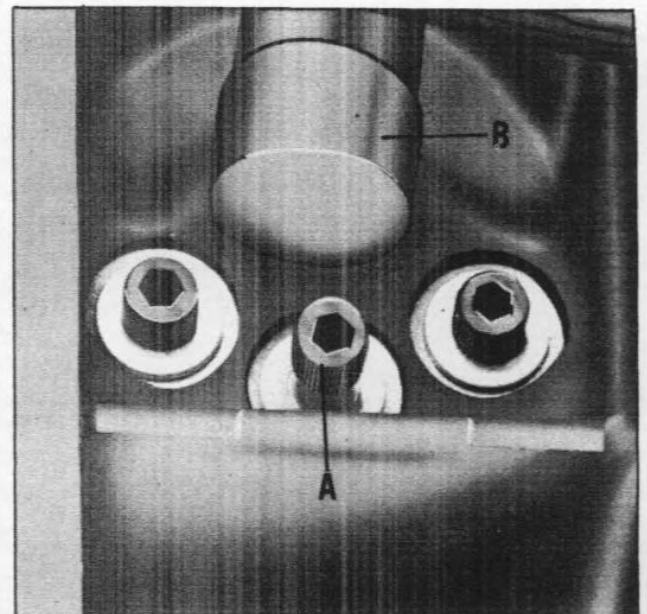
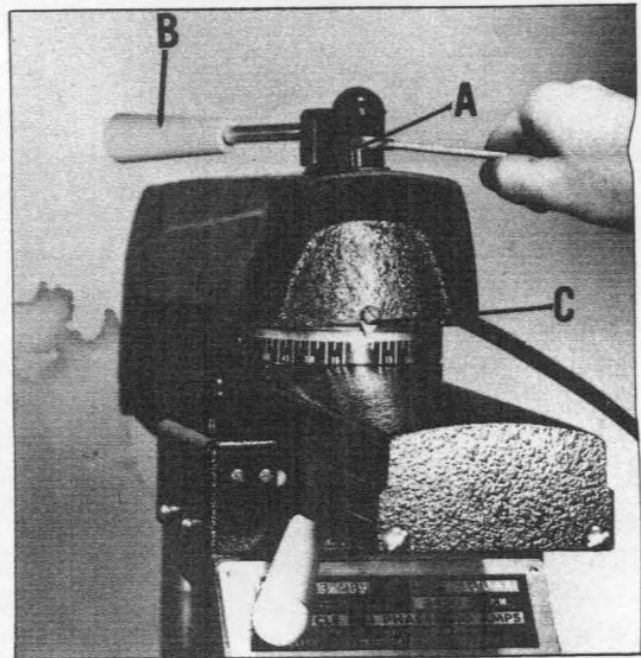

Fig. 26
Fig. 27
5. Rap the center cap screw (A) Fig. 26, sharply upwards, using a soft hammer (B) or a block of wood. This loosens a concealed tapered plug set in the track-arm that is attached to the cap screw (A).
4. Locate center cap screw (A) Fig. 26, located under center of track-arm, and loosen slightly using an allen wrench. This center cap screw is also shown in Fig. 25-A.
6. Place a wrench on hex nut (A) Fig. 27 and turn slightly to one side. **CAUTION: DO NOT ROTATE NUT (A) COMPLETELY. THE NUT WILL ONLY ROTATE 15 DEGREES RIGHT OR LEFT. FORCING THE NUT WILL CAUSE THE PLUNGER TO "FREEZE" IN THE HOUSING.** The entire track will move as the nut is turned.
7. When the saw travel is square with the fence tighten track-arm clamp handle (B) Fig. 27, to hold the adjustment. Then tighten cap screw (A) Fig. 26.
8. Check pointer (C) Fig. 27 and adjust to zero if necessary.